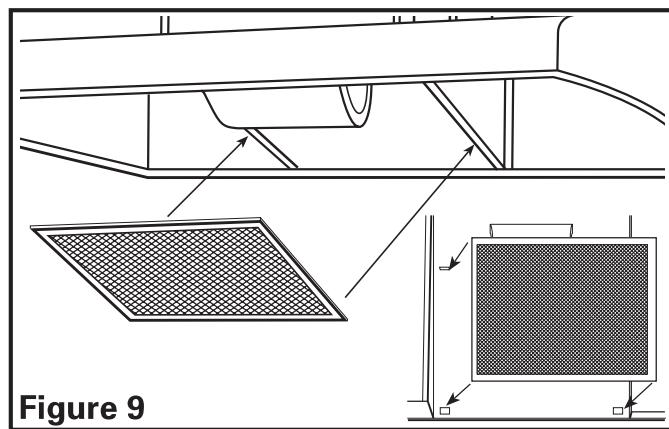

Figure 9
- Install the appropriate filters sliding the back side of the filter into the tab and pressing the front of the filter into place (**Figure 9**).